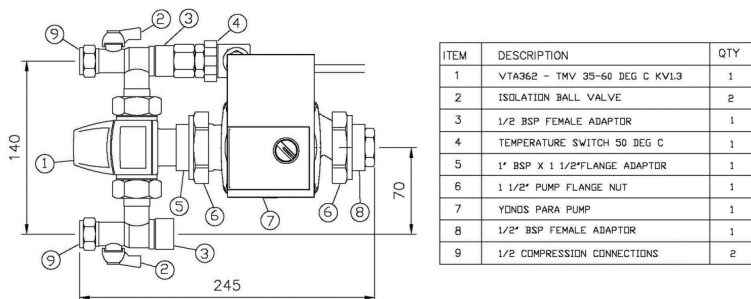

Fig.1 Overall Connections and Dimensions
4.5 The pump mixer can be attached to the heating system. Using the dimensions shown in Figs. 1, ensure that there is sufficient space for installation and maintenance at the intended position.